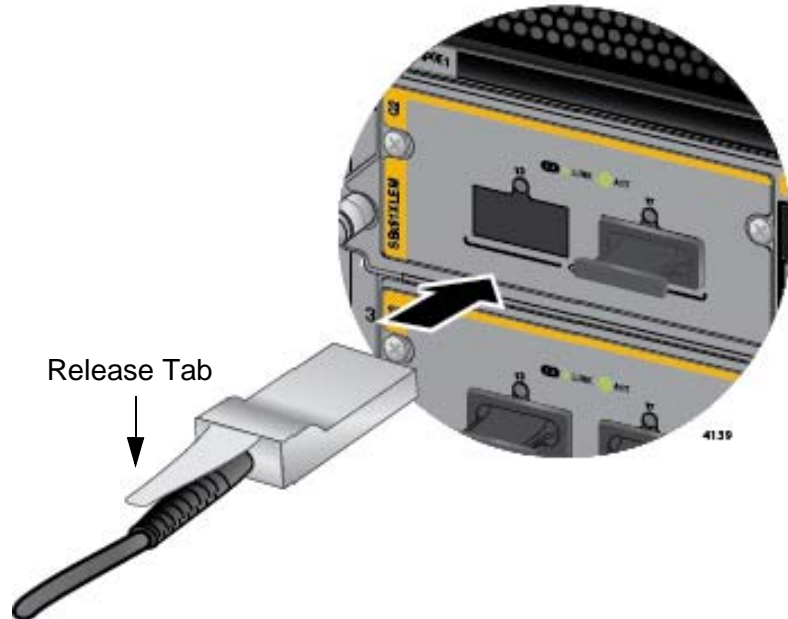

Figure 113. Sliding the AT-QSFPCU Cable into the Slot
2. Orient the connector on the AT-QSFPCU Cable with the release tab on top and slide it into the slot until it clicks into place. Refer to Figure 113 on page 173.